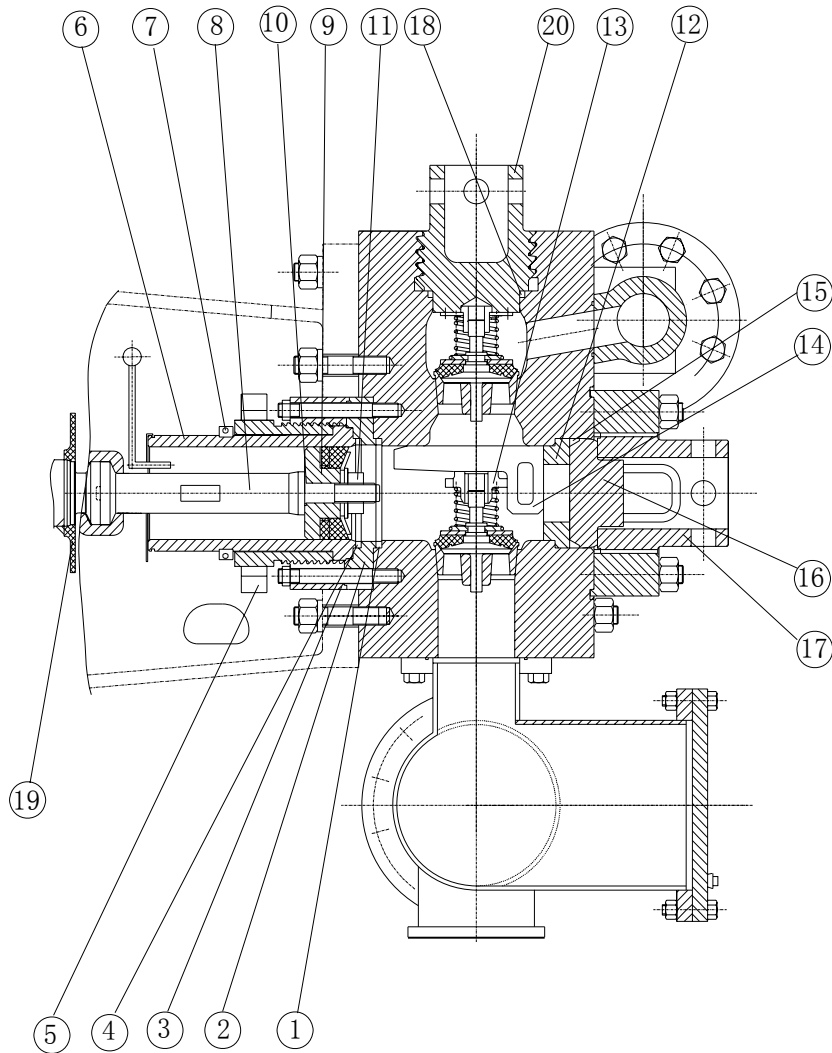

Fig. 8 F— 1300/1600 Fluid end assembly
A profile of the fluid end for F-1300/1600 is shown in Fig. 8. Refer to Fig. 8, clean and assemble the
Remove three valve caps (20), three cylinder heads (17), and plugs (16) as shown in Fig.8. And thoroughly clean all machined surfaces in the fluid end with a good cleaning solvent.
Installs wear-resisting plate seal (1) in counter bore of fluid end (see Fig. 8). Install wear-resisting plate (2) through studs until it seats against fluid end. Mount liner flange (3) over studs with the starting thread at the 5 o'clock position and tighten bolts with 640~690N.m (470~510ft.lbs) torque.